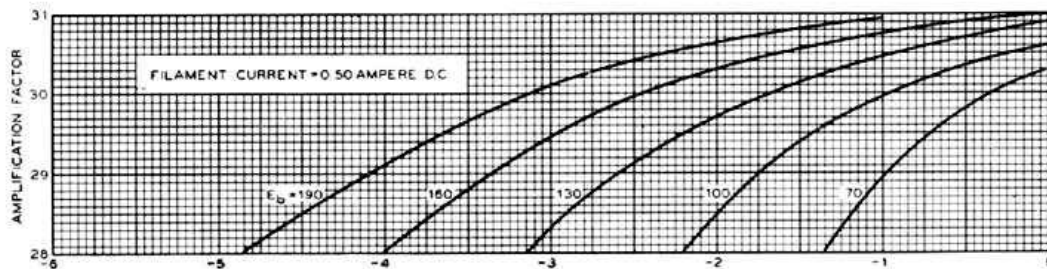
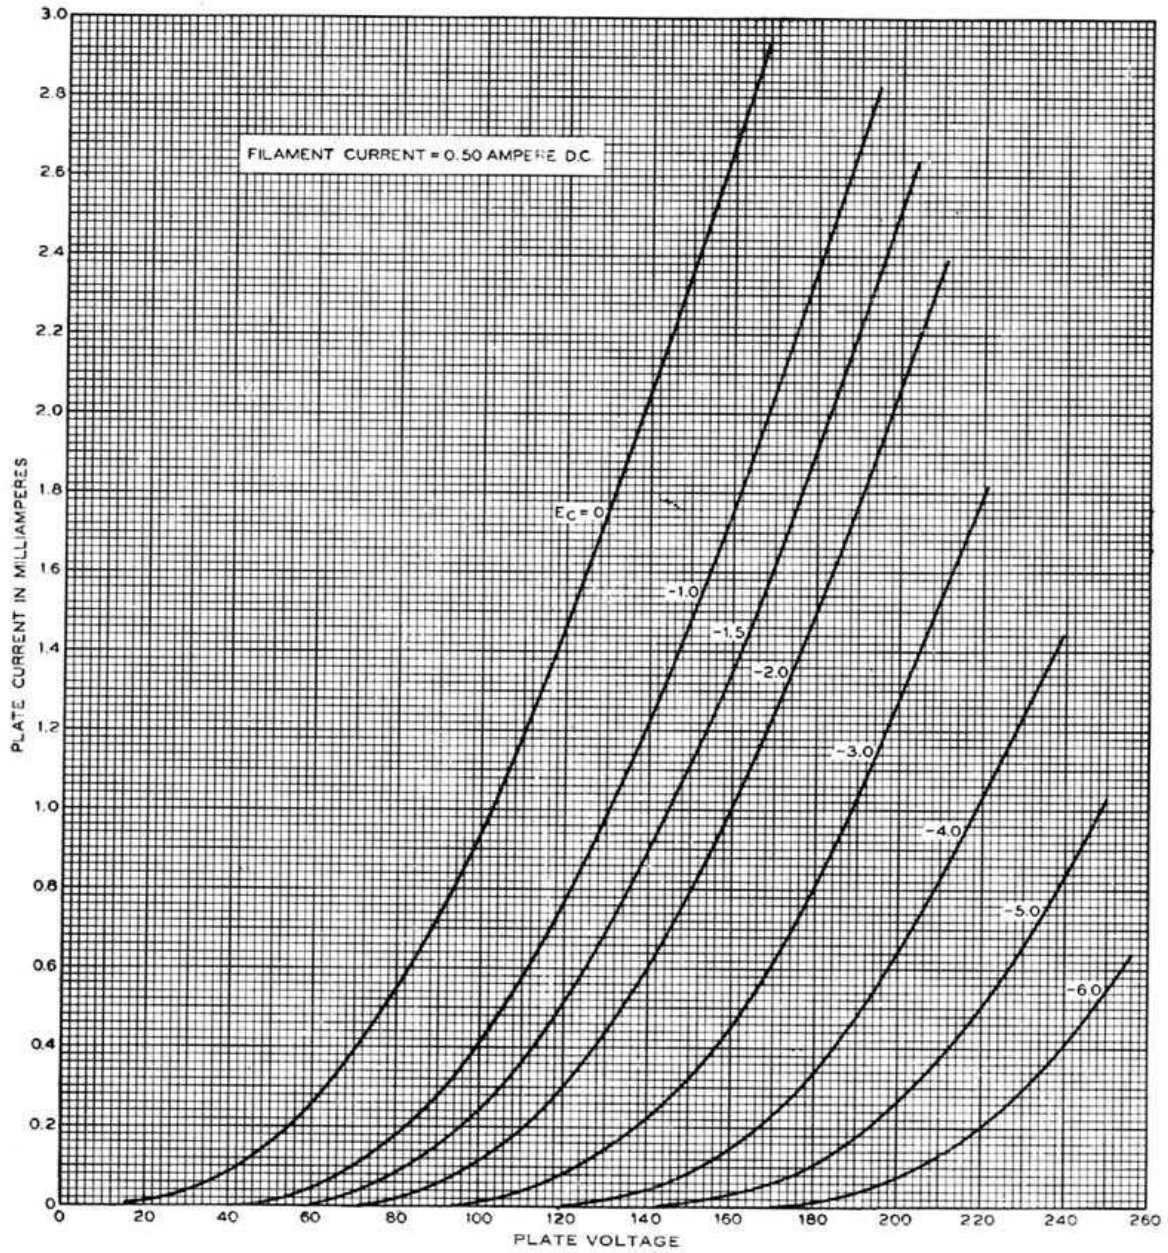

FIG. 4
FIG. 7
**Characteristics**—Plate current characteristics of a typical 102F tube are shown in Figure 3 as functions of grid voltage for several values of plate voltage. The grid and plate voltages are measured from the negative end of the filament. Corresponding amplification factor, plate resistance, and transconductance characteristics are given in Figures 4, 5 and 6, respectively. Plate current characteristics as functions of plate voltage are shown in Figure 7 for several values of grid voltage.